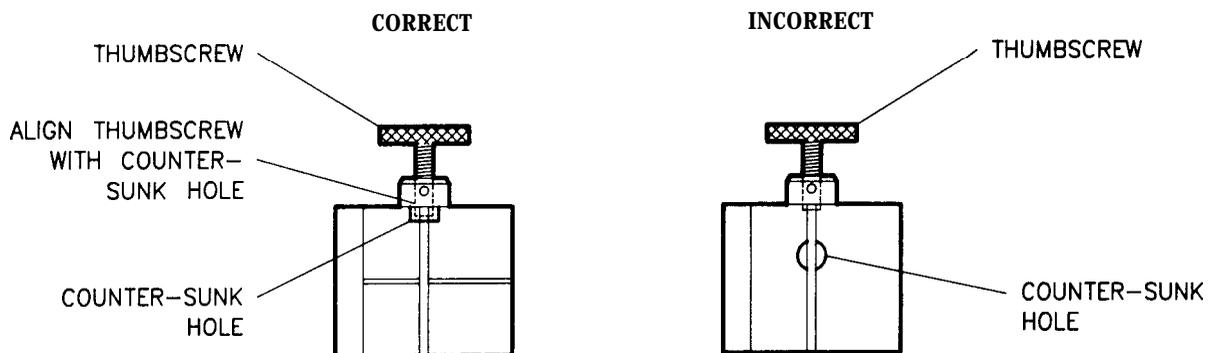

Figure 3-9. *Aligning the Thumbscrew With the Counter-bored Hole*
- See Figure 3-9. Make sure that the thumbscrew is aligned with the counter-sunk hole in the clamp body. Push the clamp toward the test set front panel and then tighten the thumbscrew with your fingers. The cable cannot be damaged by tightening the thumbscrew too tightly.